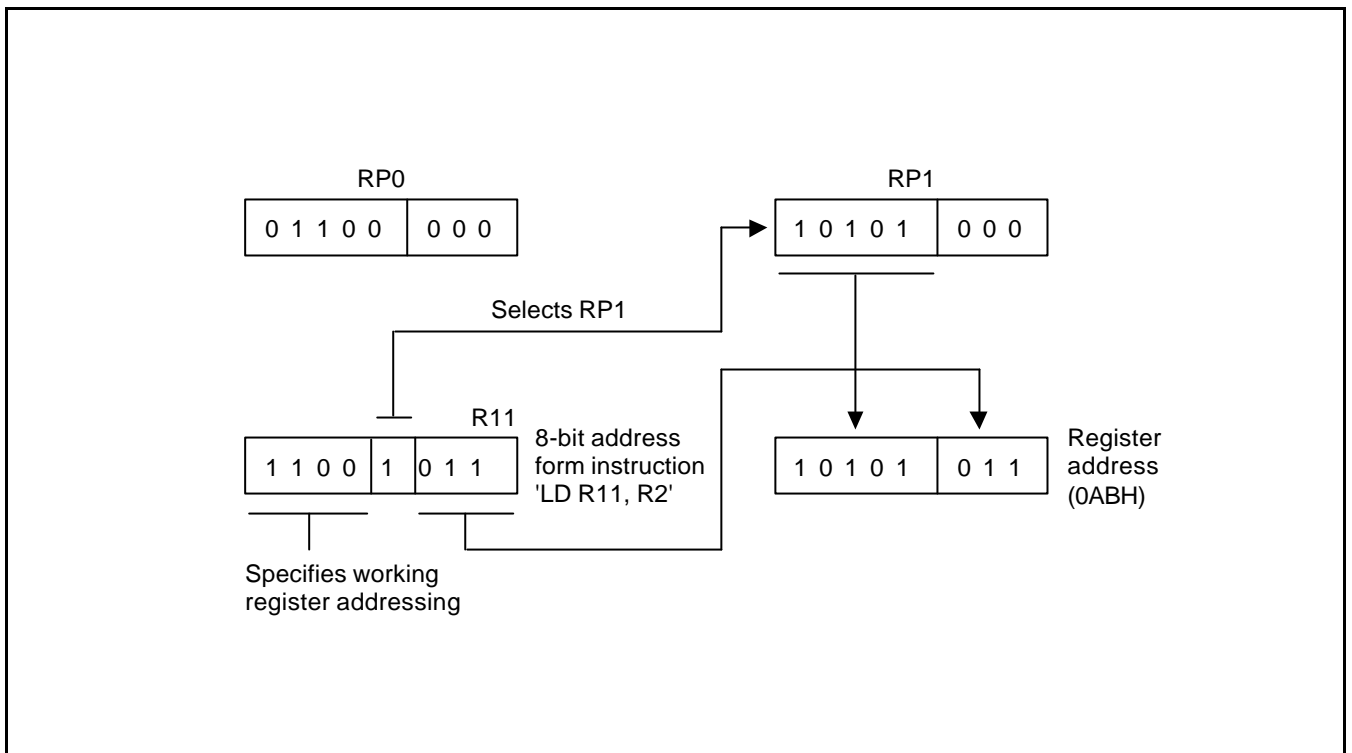

Figure 2-16. 8-Bit Working Register Addressing Example
Return addresses for procedure calls and interrupts and data are stored on the stack. The contents of the PC are saved to stack by a CALL instruction and restored by an RET instruction. When an interrupt occurs, the contents of the PC and the FLAGS register are pushed to the stack. The IRET instruction then pops these values back to their original locations. The stack address is always decremented *before* a push operation and incremented *after* a pop operation. The stack pointer (SP) always points to the stack frame stored on the top of the stack, as shown in Figure 2-16.